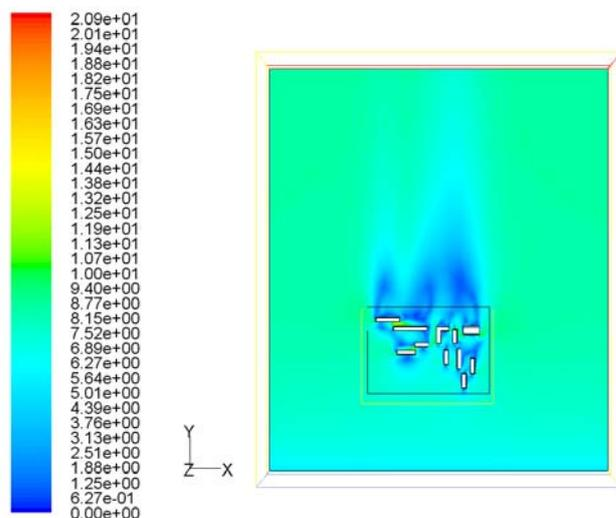

Fig. 21 Temperature contours at the middle plane.
*Now the contours is copied to the clipboard which can be pasted to other document editing programs (see Fig. 21). Note that for a large model it might take a minute to copy the image to the clipboard.*